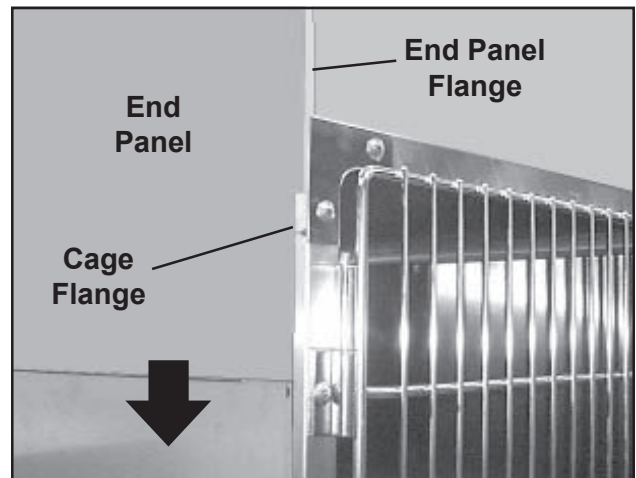

Figure 40. Mounting the End Panel to the Cages
2. With the flanged side to the front, slide the end panel down between the cage body and the cage flange (Figure 40). The end panel flange should point toward the cage.